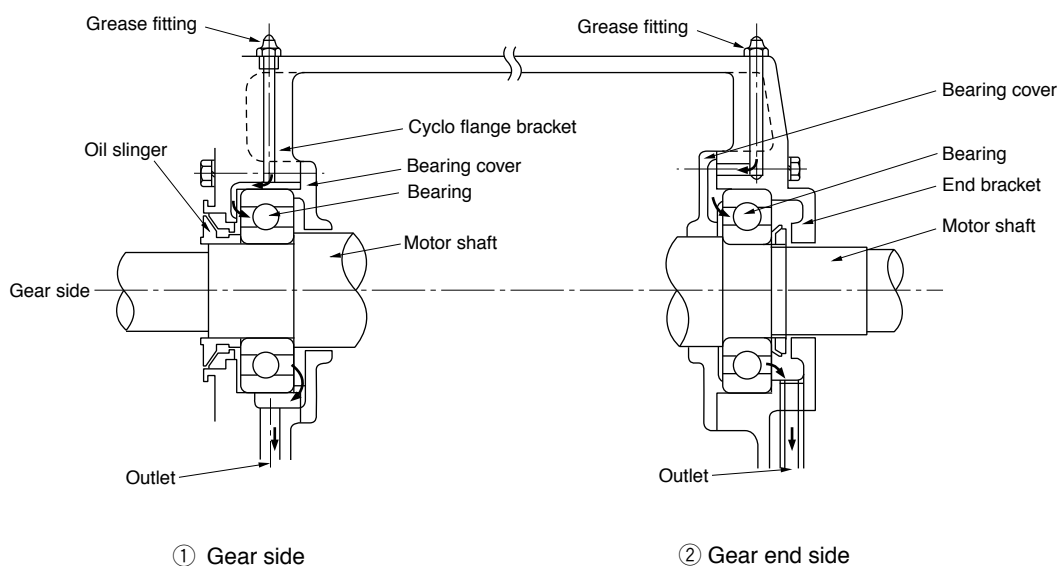

Fig. 20 Construction of Open Bearing in the Motor
(3) Grease Supply and Discharge (Refer to Fig.20 and Fig.40, 41 on page 33)
- ① Remove the discharge plug, discharge old grease and add new grease while unit is operating.